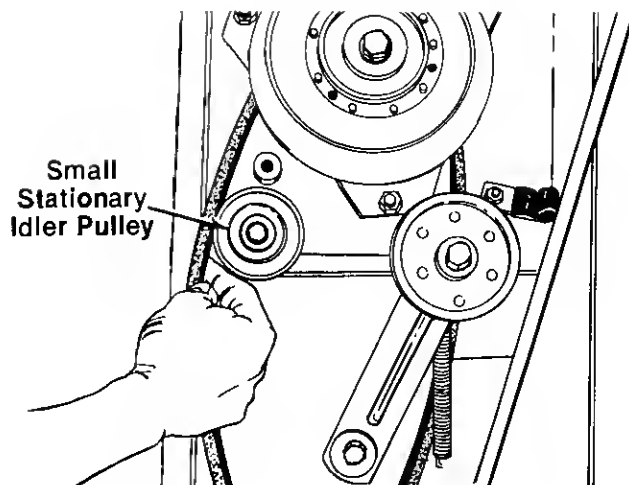

FIGURE 28.
5. Lift belt over small stationary idler pulley on right hand side of engine pulley. See figure 28.